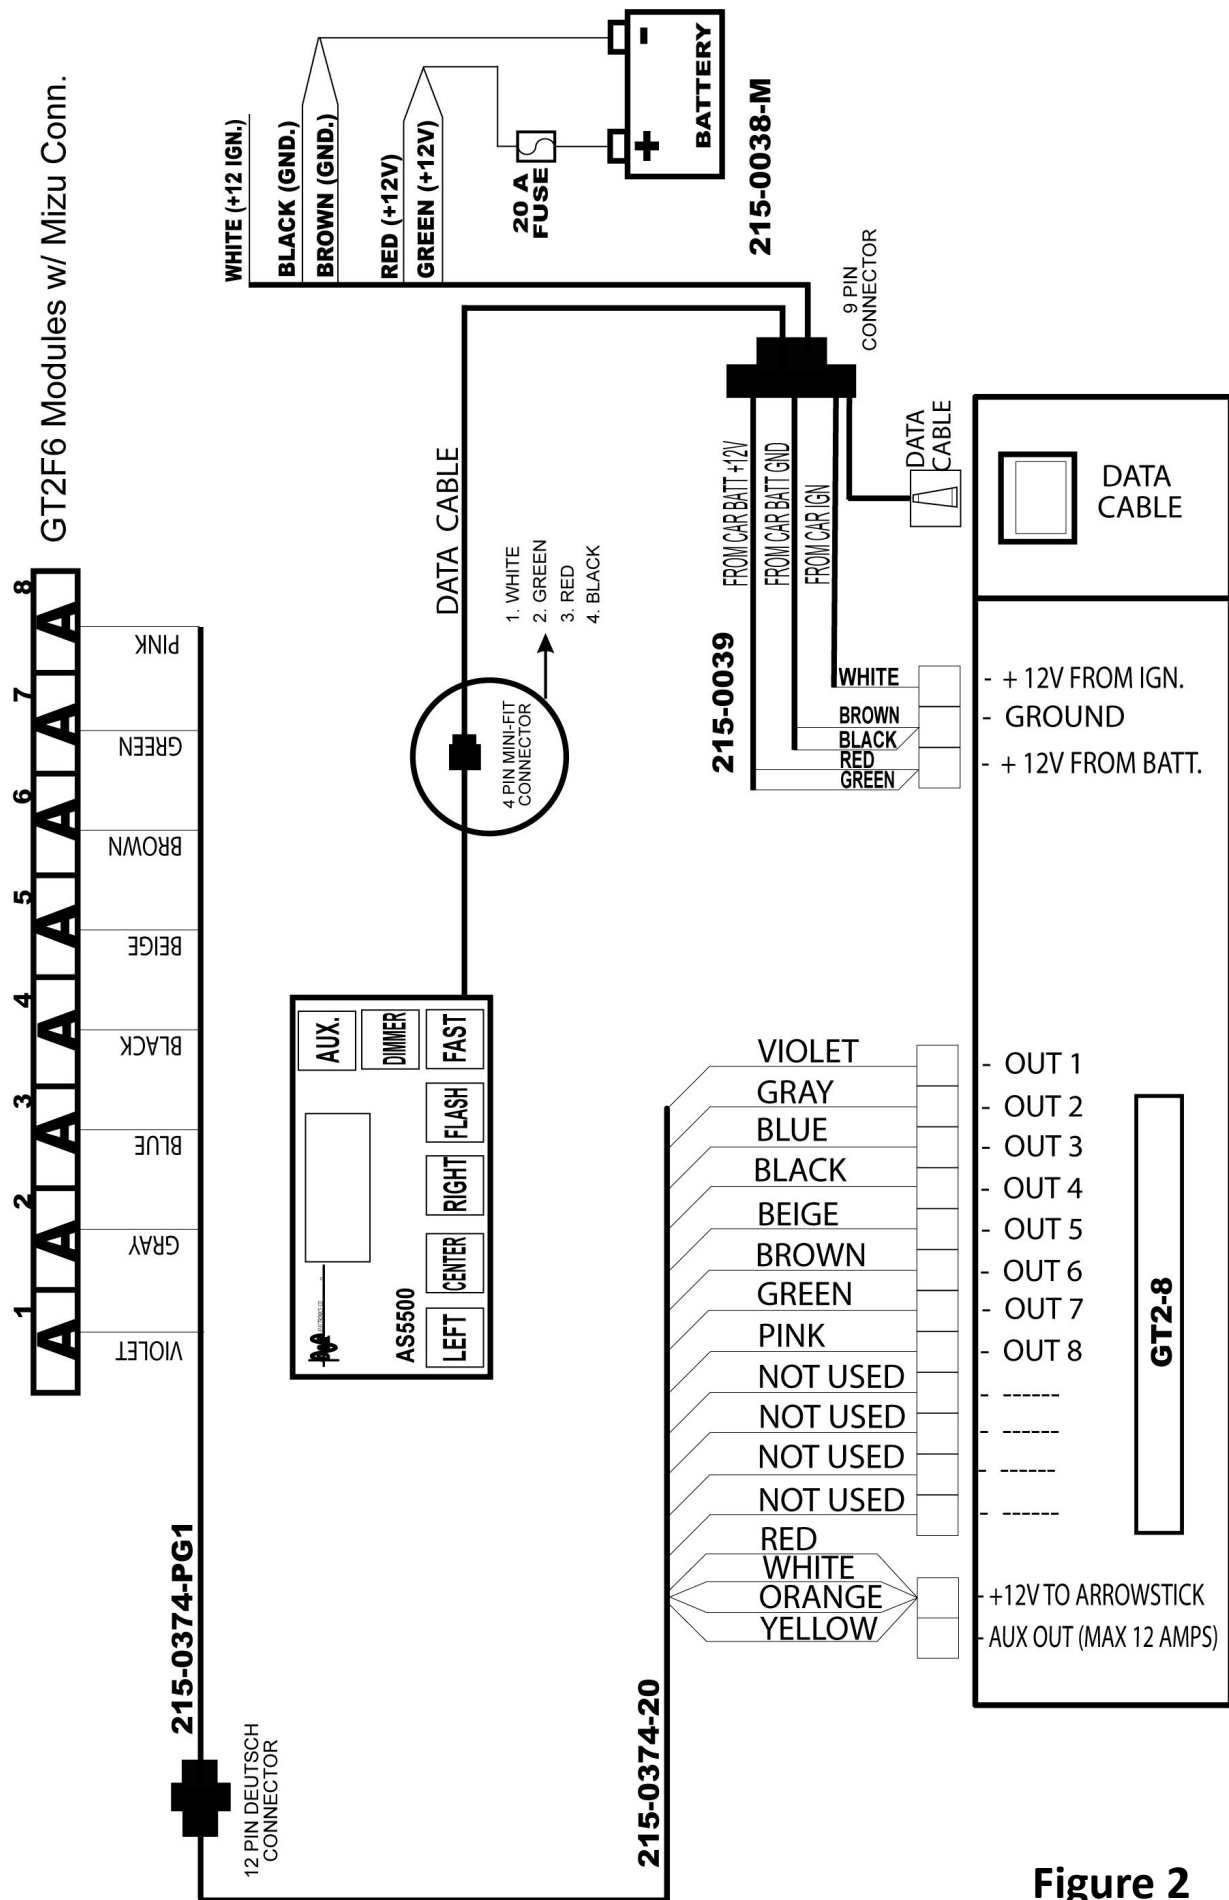

Figure 2
2. The open wires from the 215-0374-20 cable are to be wired into the control box as shown in Figure 2.
3. Wire the 215-0039 cable to the control box as shown in Figure 2.
6. Wire the remaining 215-0038-M wires as shown in Figure 2.